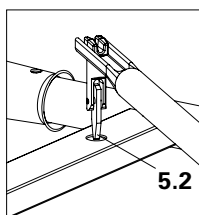

Fig. A1.05b
2. Fix to the next highest Stacking Frame by means of a gravity pin (5.2). (Fig. A1.05b)